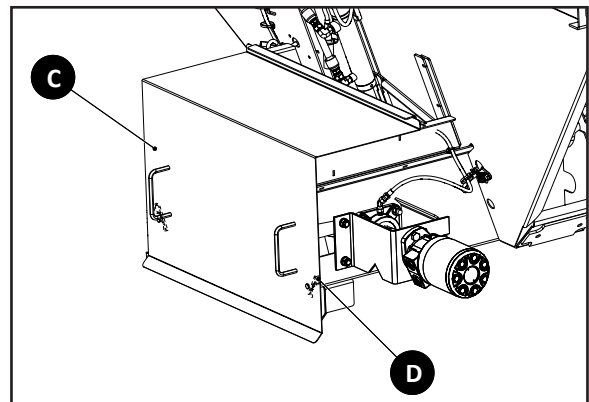

Figure 2
- Figure 2 - Install Conveyor Cover (C) and secure with hair pins (D) on each side.